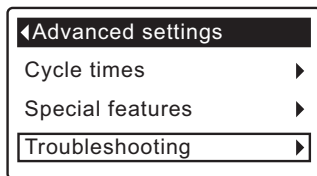

FIG. 78
4. Press the OK/MENU button to display the Advanced settings menu (See Figure 78).